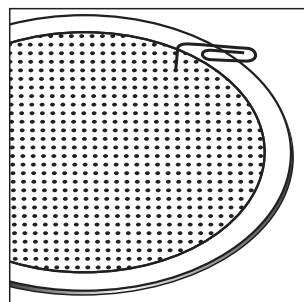

FIGURE 6
1. Separate the parts of the speaker. If the speaker is not yet installed, the grille can be removed simply by pushing the clamp screws forward to push the grille off the speaker from the inside. If the speaker is already in the wall, carefully hook the grille with a bent paper clip and pull it gently away from the frame [figure 6].